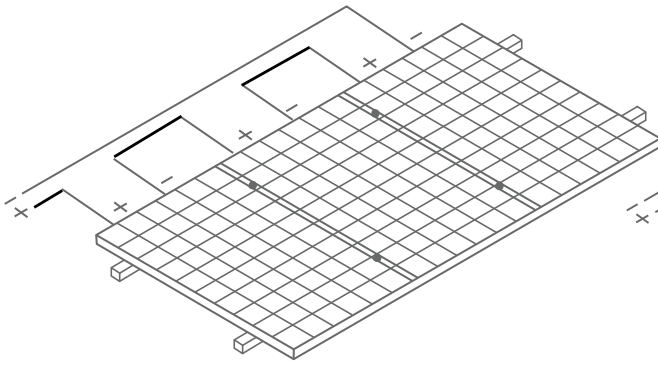

Figure 4 Connection in Series
- It is not allowed to use the Modules in different models in the same solar photovoltaic system. When the Modules are connected in series, the voltage of every string shall not be higher than the maximum voltage of the system (as shown in Figure 4). Reference equation of the maximum number of the Modules in serial connection: maximum system voltage of the module/ (1.3\* open-circuit voltage).